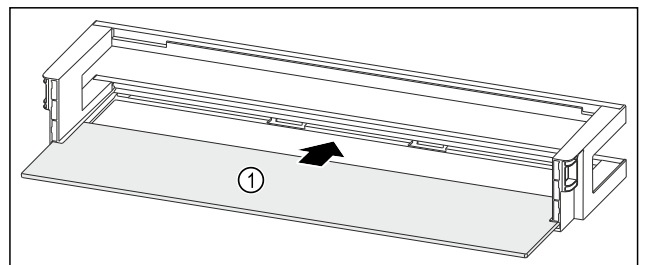

Fig. 238 Door rack with shelf
- Push the shelf Fig. 238 (1) into the side recesses.